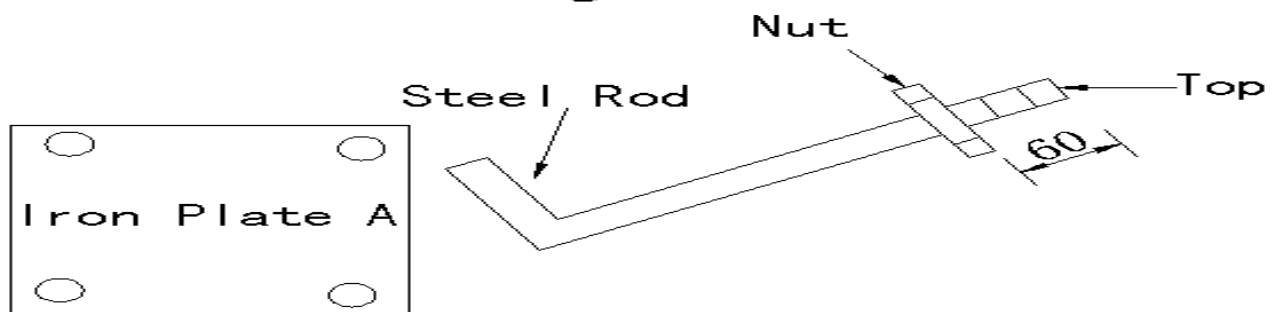
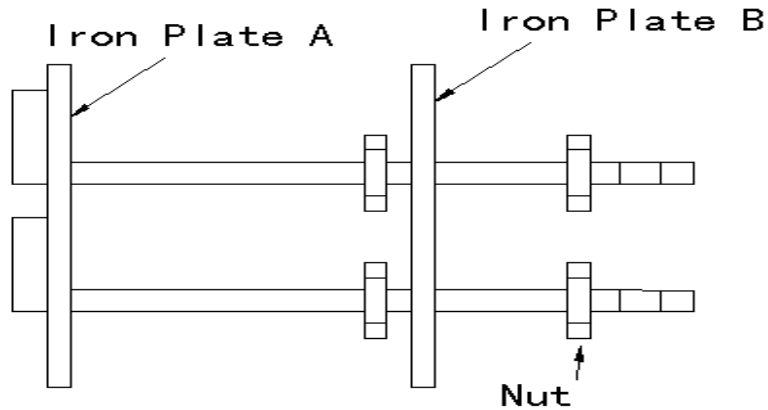

Figure 2
Figure 3
- B. Put the bends of the steel rod through the 4 holes on the Iron Plate A. See Figure 2.
- C. Put the 4 nuts on the steel rod to the position of 60mm (make sure that the nuts on the 4 steel rods keep the same distance to the top). See Figure 2. Then, put the Iron Plate B into the 4 steel rods, put on the nuts and screw up. See Figure 3.